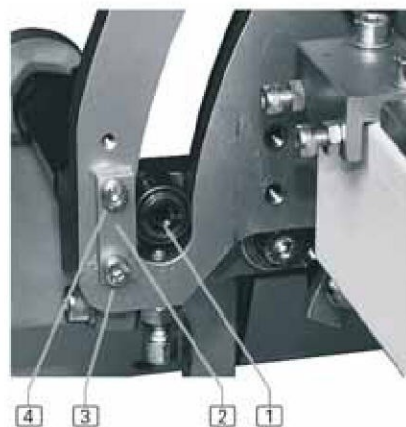

fig. 24
- 2 **fig. 24:** Loosen both fastening screws **3** and **4** of the stop **2**.